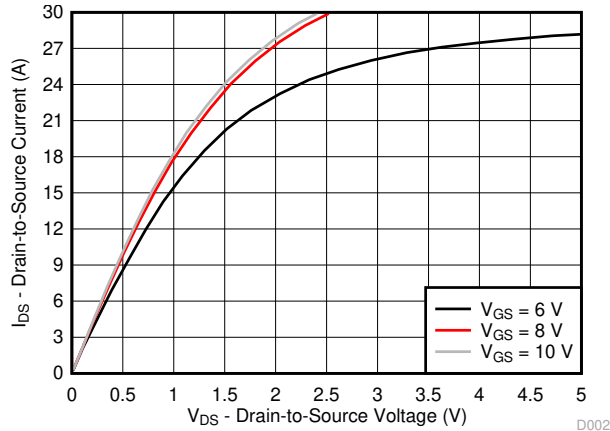

Figure 3-2. Saturation Characteristics
- Changed test voltage V_{DS} from 100V : to 50V in Figure 3-2 curve..... **1**